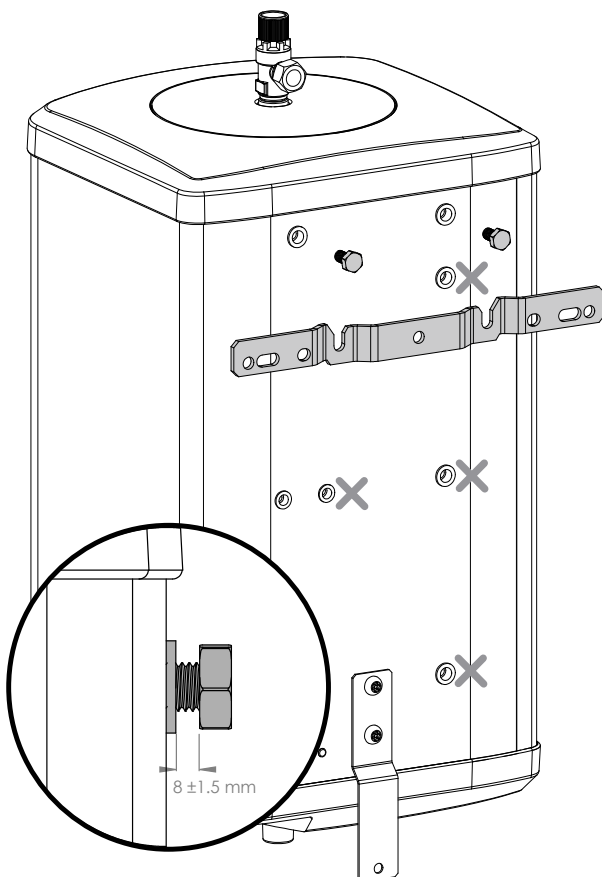

Figure 4: Top Bracket
- ▶ The top bracket bolts should be screwed all the way into the hole until they stop and stick out 8mm as shown in figure 4 below.
- ▶ Locate the appliance top bracket bolts in the corresponding slots in the wall bracket. Ensure they are fully engaged and seat correctly (figure 4).